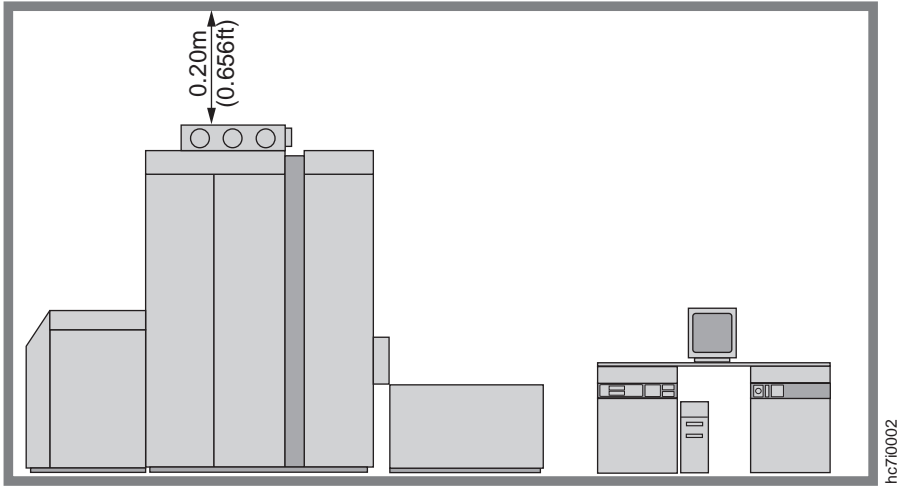
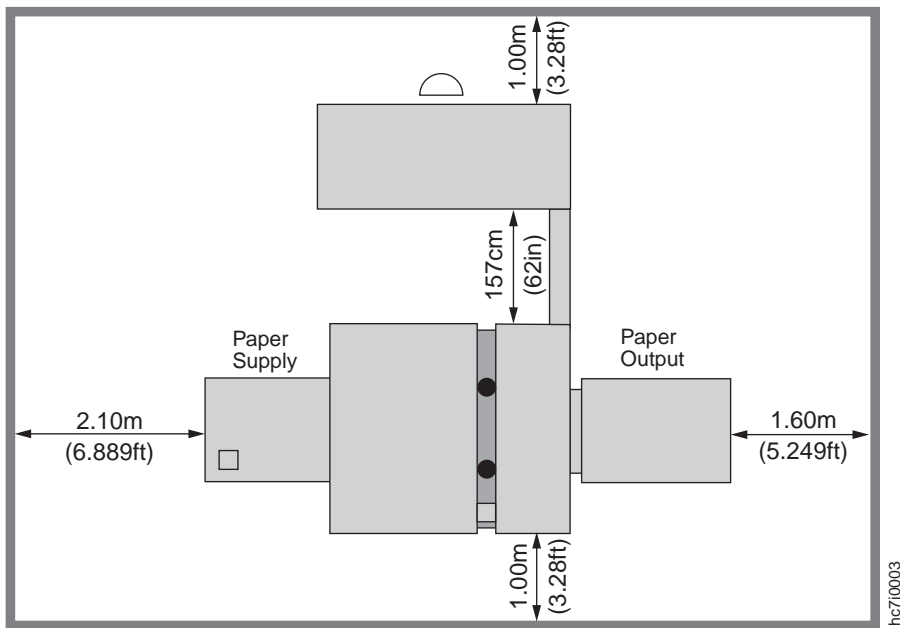

Figure 3. Minimum Space Above The Printer Tower
Figure 4. Minimum Area Around The Printer
- Allow 2489 mm (98 in.) between the floor and the lowest permanently attached object above the printer, such as a light or a cable rail. This layout gives printer operators and service representative space in which to work. See Figure 3 on page 13.
Minimum space requirements are shown in Figure 3 on page 13 and Figure 4 on page 13.